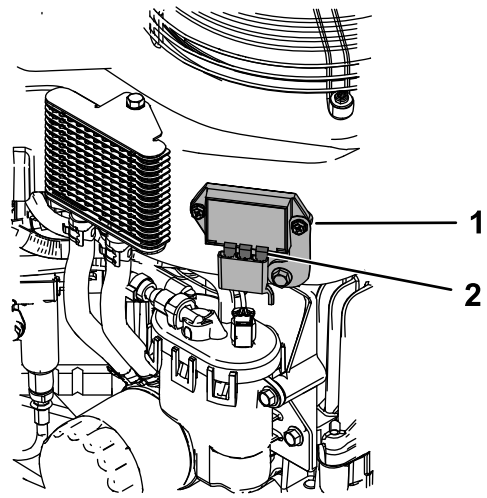

Figure 38
4. Lightly apply grease to the voltage regulator blades (Figure 38).